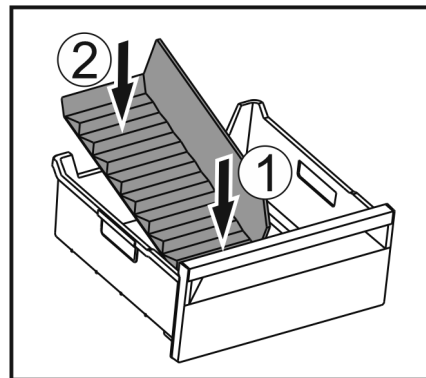

Fig. 98
- ▶ Insert the front part of the ice compartment divider. Fig. 98 (1)
- ▶ Lower the rear part of the ice compartment divider to the drawer bottom. Fig. 98 (2)